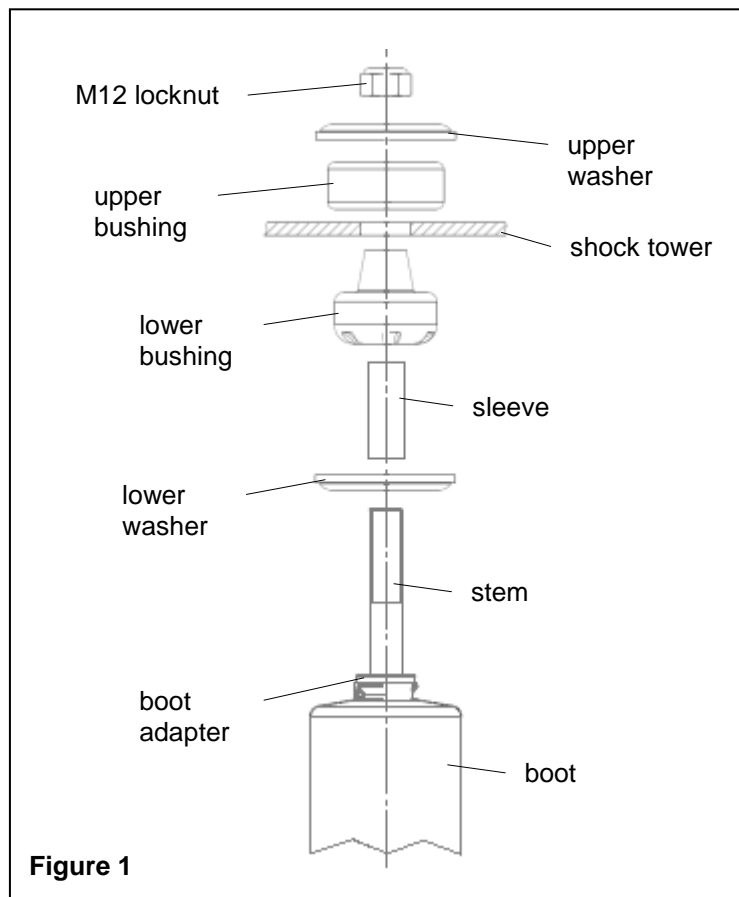

Figure 1
- C. Using the supplied stem mounting hardware, install the lower washer, sleeve, and bushing on the shock stem. Then install the Bilstein Shock Absorber in the original location and attach the lower mount. Please refer to Figure 1 for the proper order of installation of the stem hardware.